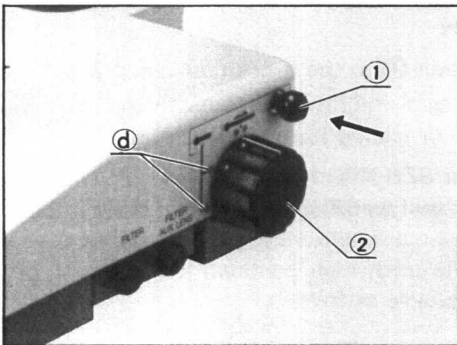

Fig. 23
d) For use of objectives other than 1X; (Fig. 23)